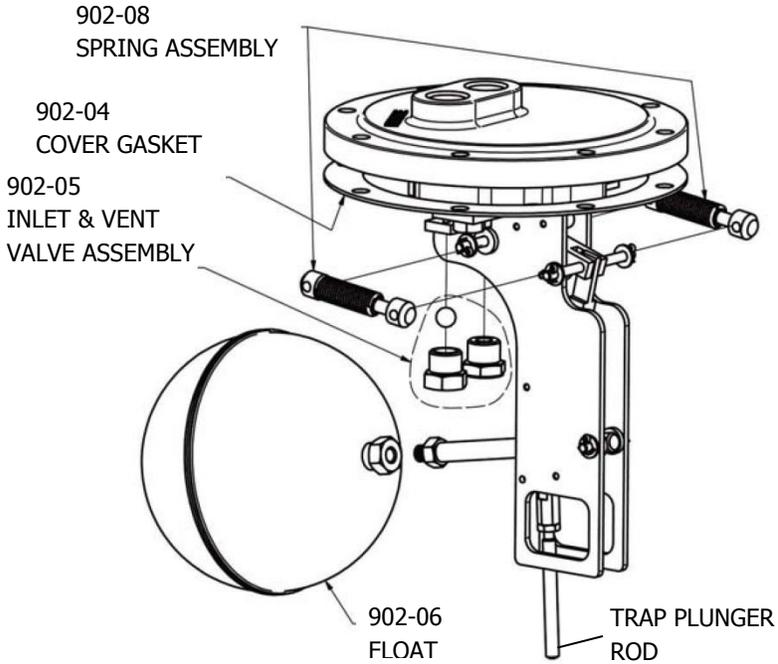

Figure 7: 912-03 Complete Pump Mechanism for PMPT
5. Confirm that the pump mechanism is in the proper orientation when reassembling. Replace cover gasket with new gasket. Make sure that the seating surface is clean of any dirt or debris. When placing mechanism cover assembly into the pump body, ensure that the plunger rod sets into the steam trap mechanism. See Figure 7 & 8 for plunger rod and plunger rod insert on the trap mechanism. If inserted correctly, cover will sit slightly above the cover gasket. You will be able to feel a springing when pressed down on the cover. See figure 6. The cover bolts should be torqued to approx. 20 ft.-lbs. Reconnect the motive and vent lines to the pump, refer to the installation instructions. After the pump is reinstalled, follow the start-up procedures to bring the pump into operation.